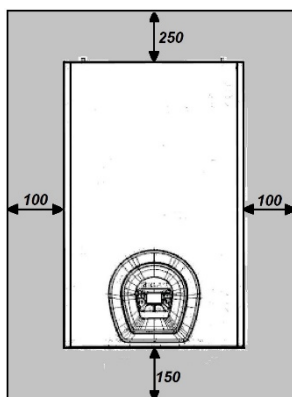

Figure 5.1
- Please leave a minimum of free space around the boiler, see Figure 5.1.